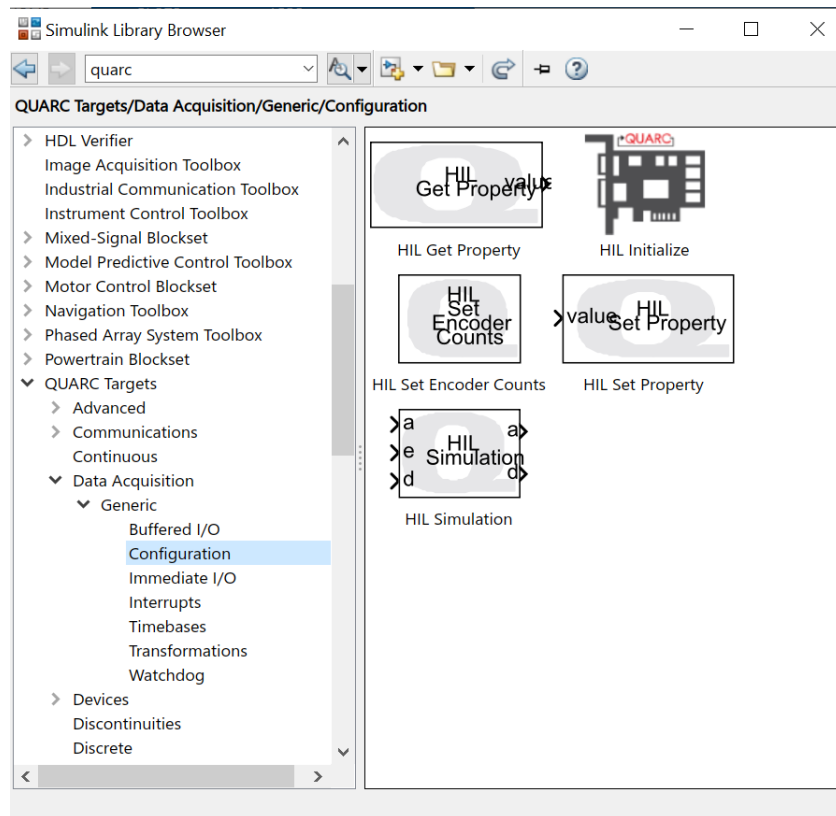

Figure 1.6: QUARC Targets in the Library Browser
6. Expand the `QUARC Targets` item and go to the `Data Acquisition | Generic | Configuration` folder, as shown in Figure 1.6.